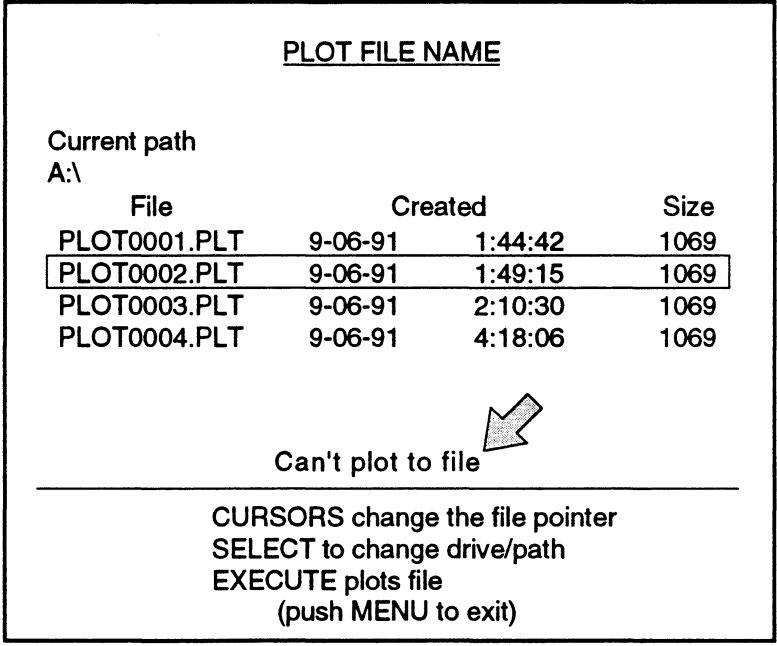

Figure 2 - Plot File Name Screen with
1. Execute Plot From Disk. The Plot File Name display appears (Figure 2).
Note: If the message "Can't plot to file" appears (Figure 2), press the Menu button and then the Plot button. Execute 'Change Plot Parameters' and set the Plot Used parameter to RS232, IEEE488, or PARALLEL as appropriate. Next, press the Plot button and then return to step 1 above.